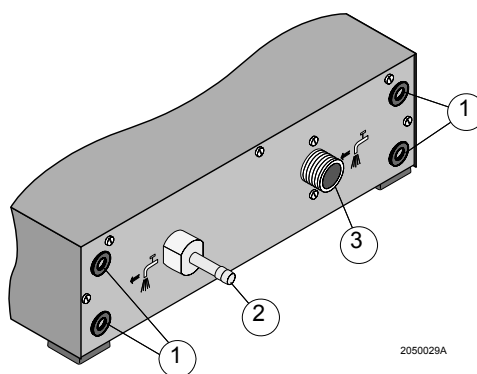

Fig. 2:1 Drive Unit (DU), rear side
1. Connect the **water tube** (1582 0066) with the nuts between the water tap (alternatively a circulating chiller) and the water inlet on the DU (Fig. 2:1 pos. 3).
2. Connect a **water tube** between the outlet on the DU (Fig. 2:1 pos. 2) and the inlet of the **Extraction Unit (EU)** (Fig. 2:1 pos. 1). Use tube clamps to ensure that the tube stays in position.